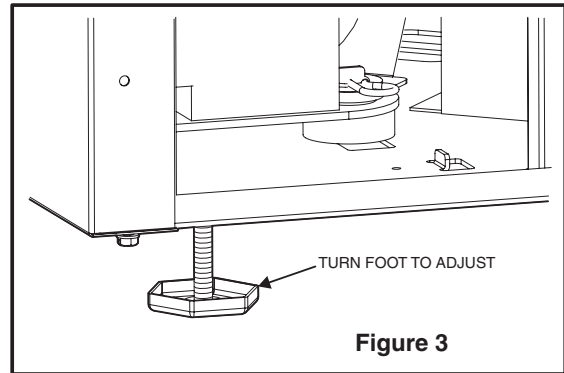

Figure 3
2. If the unit is not level, adjust the feet on the corner as necessary. **See Figure 3.** Rotating the feet clockwise raises the unit.